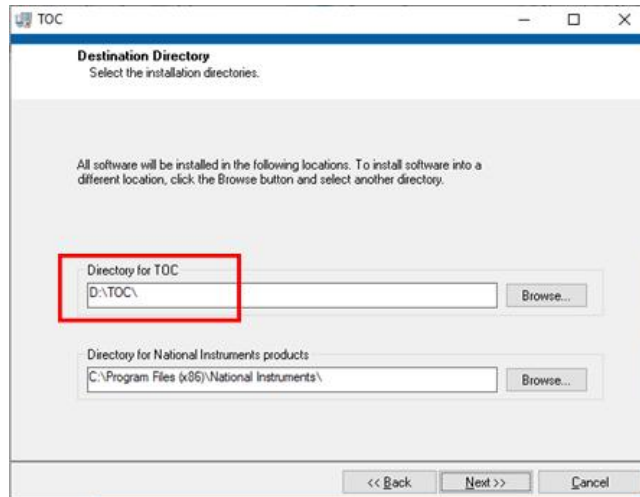

Fig. 3.40
2) The default installation path is D disk. User can set the disk with running authorization (Fig.3.40).